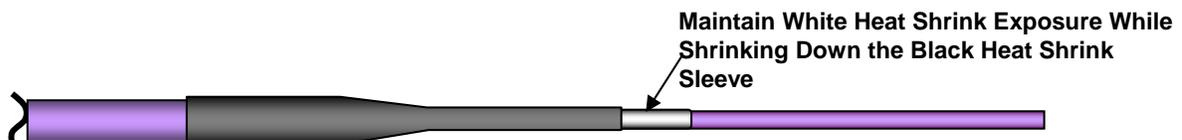

Figure 7-20 – Installing White Heat Shrink Sleeve
- Step 6 - Shrink down the black heat shrink sleeve using a heat gun no hotter than 210°C. Ensure to maintain the correct amount of exposure of the white heat shrink. See Figure 7-20.